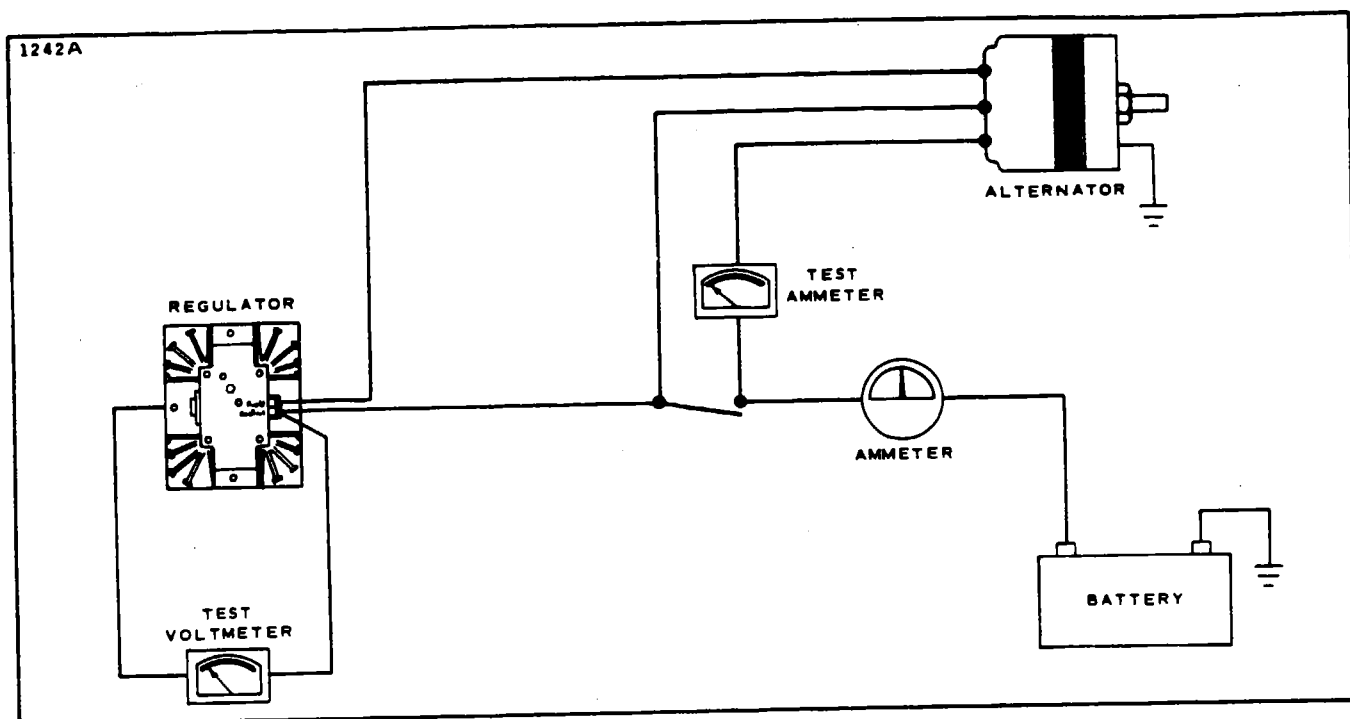

Figure 11-13. Testing Regulator
a. The procedure for testing the regulator, whether on the airplane or on the test bench, remains the same. Connect test meters as shown in Figure 11-13.
d. Connect the voltmeter and the ammeter as shown in Figure 11-13. Start the engine and adjust its speed to obtain 3,000 to 4,000 alternator RPM (714 to 952 prop RPM). Turn on accessories as needed to establish 10 to 15 ampere electrical load, or use a carbon-pile across the battery to obtain this charge rate.